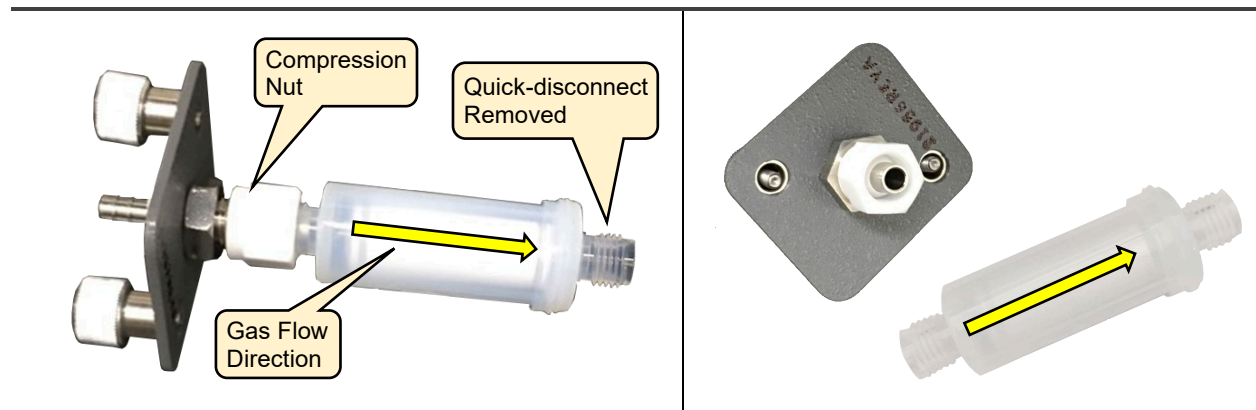

Figure 65: Filter Removed from Pressure Inlet Bulkhead
5. Remove the male quick-disconnect from the filter outlet by loosening the compression nut (Figure 65). Remove the ferrules and discard.